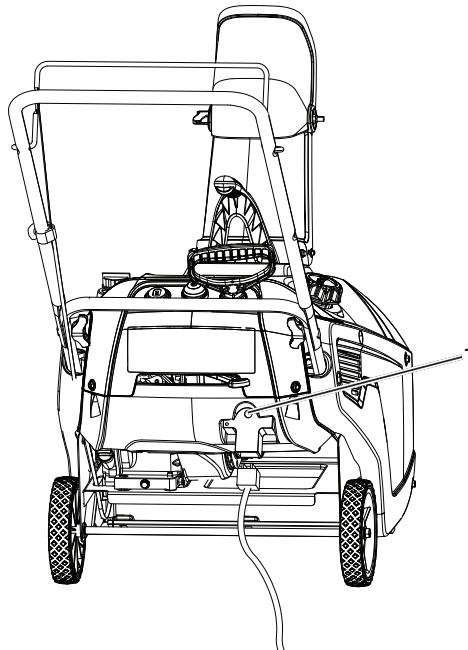

Figure 12
4. Pull the recoil starter or if your snow thrower is equipped with an electric starter, connect an extension cord to the snow thrower and plug the other end into a three-hole grounded 110 volt A.C. receptacle and push the electric-start button (Figure 12).
6. Unplug the extension cord from the power source and the snowblower (Figure 12).